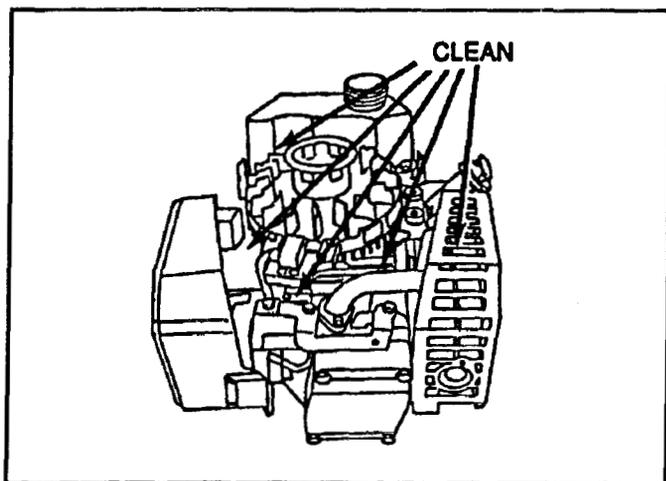

Figure 9
4. Remove dirt and debris with a cloth, brush or low pressure, 30 psi (200 kPa) or less, air. When using compressed air be sure to wear safety glasses to prevent eye injury from airborne debris. See Figure 9.